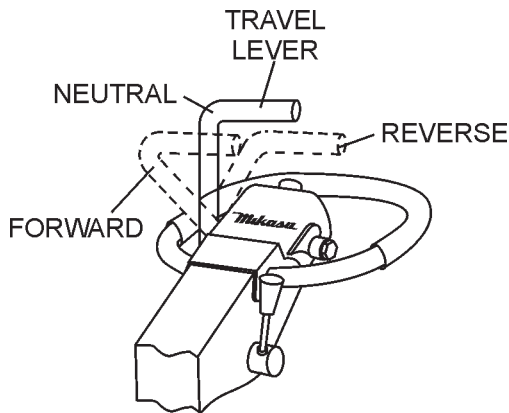

Figure 21. Travel Lever
3. To make the compactor move in the forward direction push the travel lever (Figure 21) forward.
4. To make the compactor move in the reverse direction pull the travel lever (Figure 21) backwards.